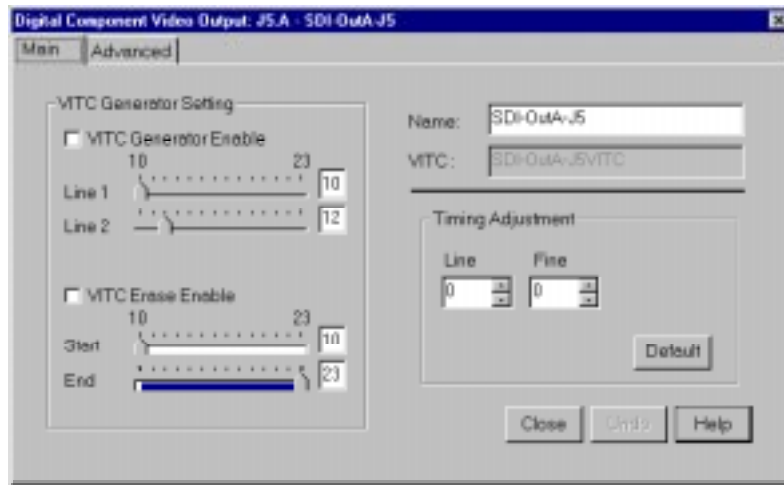

Figure 26. Serial Digital Component Video Output dialog box
1. Select **Video Output** from the configuration tree, and then click or double-click a digital component output from the list, such as *SDI-OutA-J5*. The Serial Digital Component Video Output dialog box appears (see Figure 26).